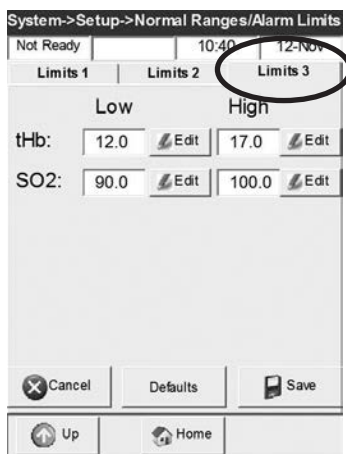

Fig. 3-17 Enter Limits 3
7. Press **<Limits 3>** to advance to the next screen (Fig. 3-17) with the remaining parameters.